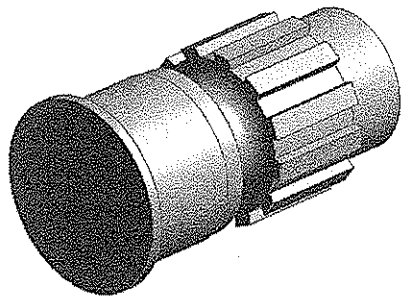

Figure 5-73 Extruded feature created
21. Choose the **Generate** tool from the **Features** toolbar; the extrude feature is created, as shown in Figure 5-73.